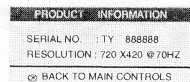

Fig. 25
2. Select "Product information" => Press "OK" button => Bring up Fig. 25.